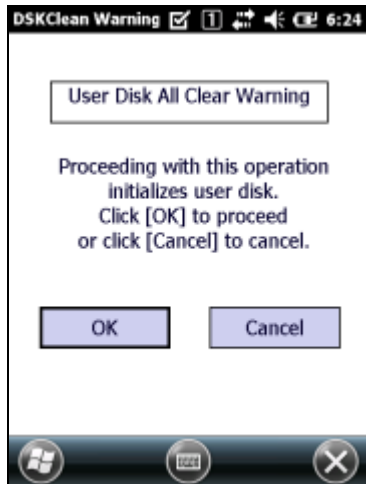

Figure 5-2
1. Double tap **DSKClean.exe** located under Windows folder. Then screen shown in Figure 5.2 appears. Tap **OK** button to continue the rest of the operation.